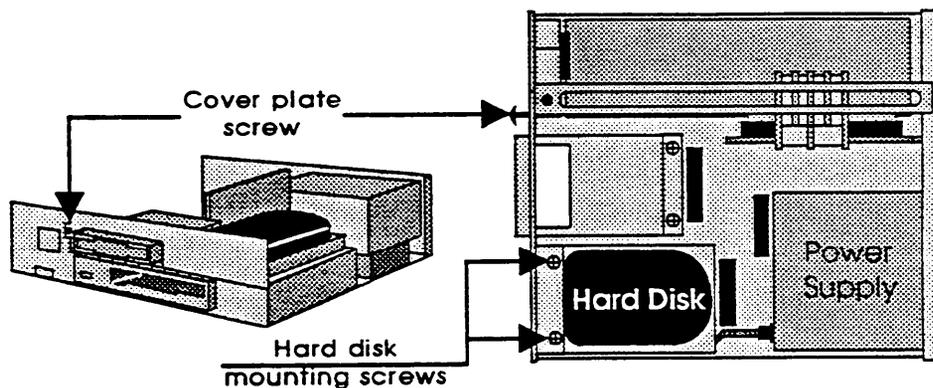

Figure 3-9. Master Controller II+ Internal Components
7. Locate the hard disk as shown in Figure 3-9.
8. Remove the two screws near the disk drive and one screw from the front as shown in Figure 3-9. Lift off the cover plate.
17. Line up the two screw holes near the hard disk as shown in Figure 3-9 and secure the hard disk drive in place with the screws removed earlier.